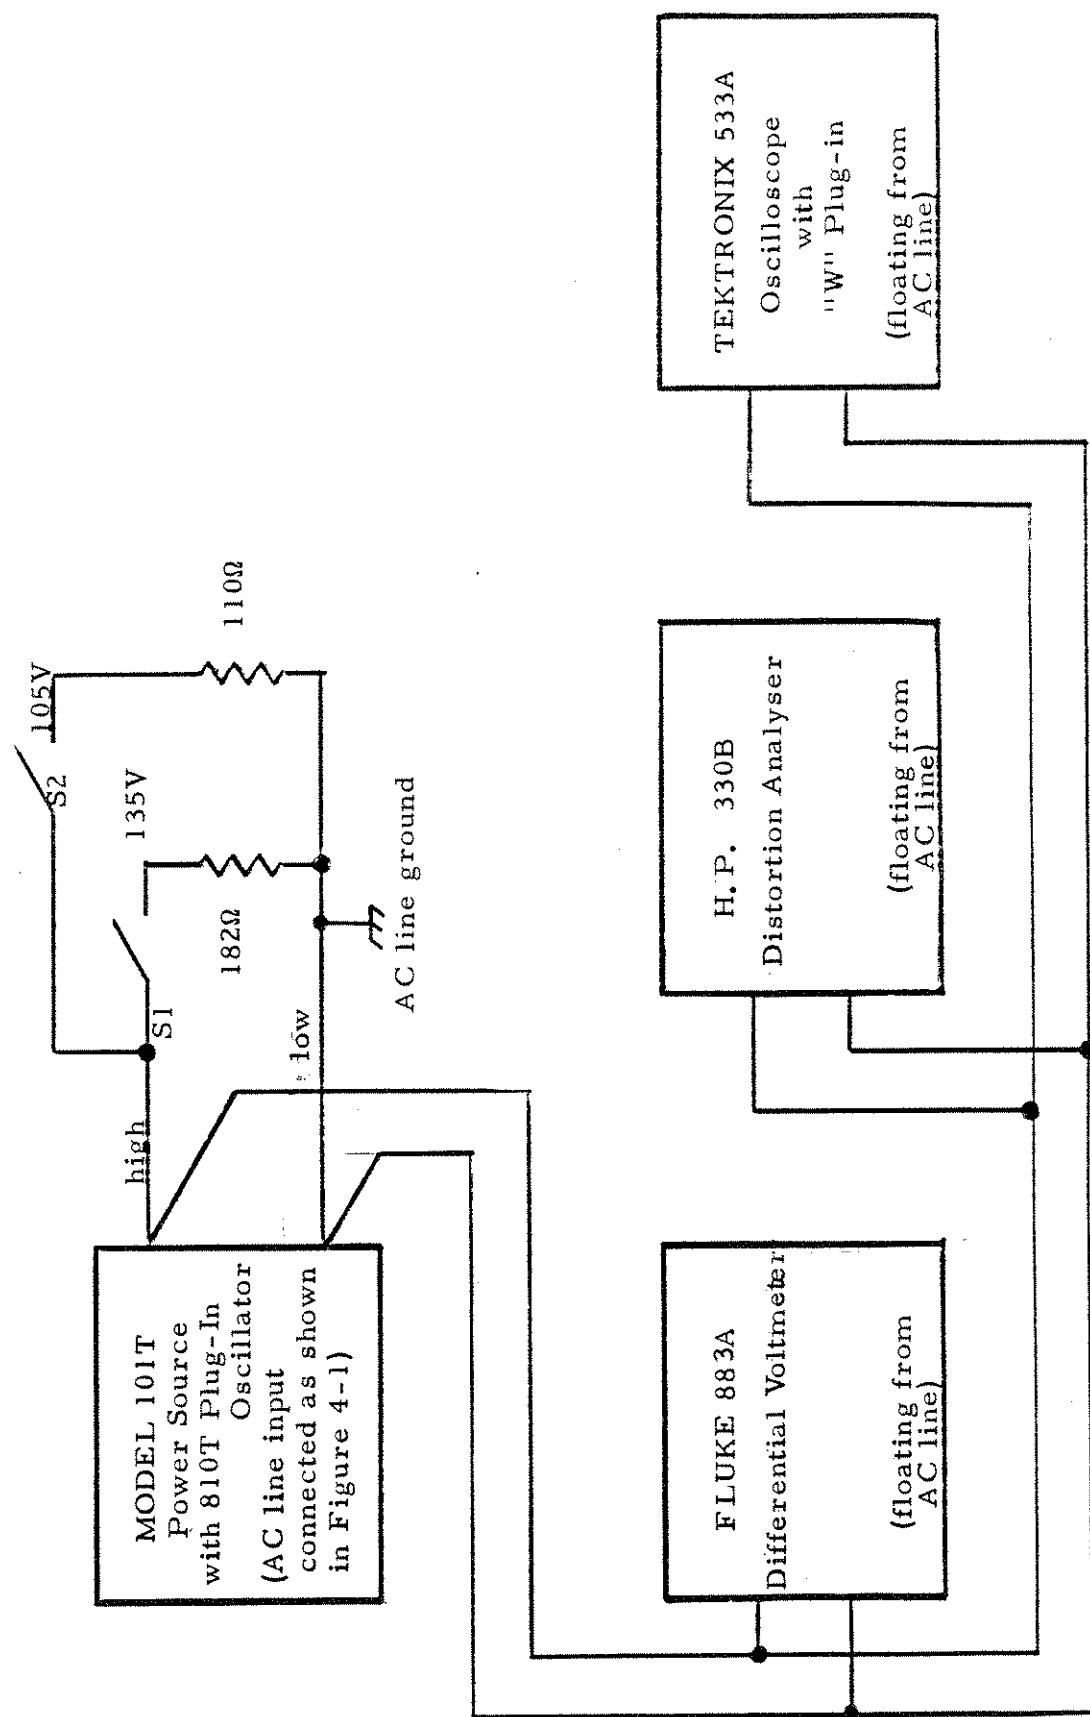

FIGURE 4-3. Test circuit for Model 101T Power Source
- 4.4.1 Connect the Model 101T Power Source as shown in Figure 4-3. Adjust the output voltage of the power source to 105 volts rms (78 per cent of rated output voltage) at 400 Hz. Close switch S2 (110 ohm load) and readjust the output voltage slightly, if required, in order to maintain a 105 volt output. The power source should deliver a clean sine wave output with less than 0.30 per cent distortion. Vary the frequency from 45 Hz to 10 KHz and check that the distortion does not exceed 0.50 per cent over the AC input line voltage range of 105 to 125 volts while maintaining the output voltage at 105 volts rms. Select zener diode A1CR13 so that no clipping or excessive distortion occurs on the positive peak of the output wave form under worst case conditions outlined above. Select resistor A1R49 so that no clipping or excessive distortion occurs on the negative peak of the output wave form under worst case conditions outlined above.
- 4.5.1 Connect the Model 101T Power Source as shown in Figure 4-3. Adjust the variac to provide a 115 VAC line input and allow the power source to warm up for a few minutes. Set the oscillator output to 400 Hz and adjust the output of the amplifier with the GAIN control to provide 135 volts rms (100% of rated output). Close switch S1 so that the 182 ohm load is across the output of the power source.
- 4.6.1 Connect the Model 101T Power Source as shown in Figure 4-3. Set the oscillator frequency to 400 Hz. Close switch S1 (182 ohm load) and adjust the output of the power amplifier to 135 volts rms (100 per cent of rated output voltage) at 400 Hz.
- 4.7.1 Connect the Model 101T Power Source as shown in Figure 4-3. Check that the load is connected to the large red and white binding posts at the rear of the power source. The output voltage may be monitored either at the rear or the front of the power source. If it is monitored at the rear of the power source, care should be taken to use four-wire sensing. Adjust the output voltage of the Model 101T Power Source to 105 V rms output (or 78 per cent of rated output voltage) at 400 Hz.
- 4.8.1 Connect the Model 101T Power Source as shown in Figure 4-3. Adjust the AC input line voltage to 115 volts rms. Adjust the output of the power source to provide 115 volts rms output (85.3 per cent of rated output voltage) at 400 Hz. Connect a 132 ohm (100 VA) load to the output terminals at the rear of the power source and check that the regulation control has been set to provide a zero output impedance.
- 4.9.1 Connect the Model 101T Power Source as shown in Figure 4-3. Adjust the input AC line voltage to 115 volts rms. Adjust the output of the power source to provide 135 volts output (100 per cent of rated output voltage) at 400 Hz.
- 4.10.1 Connect the Model 101T Power Source as shown in Figure 4-3. Adjust the line voltage to 115 volts rms. Adjust the output of the power source to provide 105 volts rms. (78% of rated output voltage) at 400 Hz.
- 4.11.1 Connect the Model 101T Power Source as shown in Figure 4-3. Figure 4-4 illustrates the load circuit and gives load parameter values for 100 VA 0.7 power factor at 400 Hz with 78 per cent of rated output voltage from the power source. This represents the worst case inductive load for maximum power dissipation inside the power source.
- 4.12.1 Connect the Model 101T Power Source as shown in Figure 4-3. Figure 4-5 illustrates the load circuit and gives load parameter values for 100 VA, 0.7 power factor operation at 400Hz with 78 percent of rated output voltage from the power source. This represents the worst case capacitive load for maximum power dissipation inside the power source.